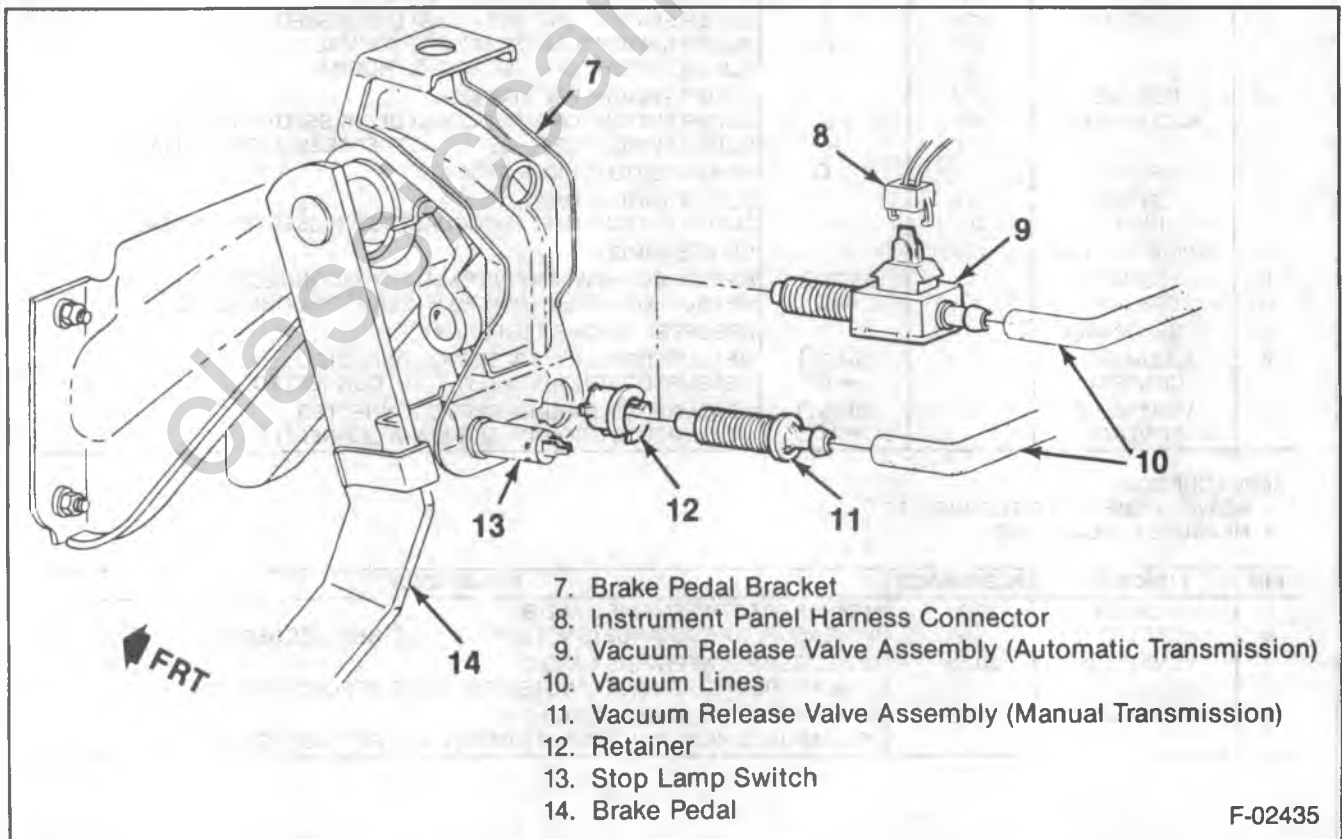

Figure 16 — Vacuum Release Switch
↔ Remove or Disconnect (Figure 16)
↔ Install or Connect (Figure 16)
1. Vacuum hoses (39) and hose assembly (49). Refer to Figures 16 through 18 for hose routings.
2. Retainer (34).
3. Rod (33).